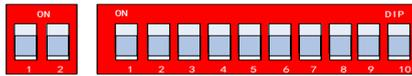

Figure 1-3 Enlarged View of DIP Switch
- For some certain models, the two individual DIP switches are at the left side of the Figure 1-3 for turning on/off the terminal resistor.